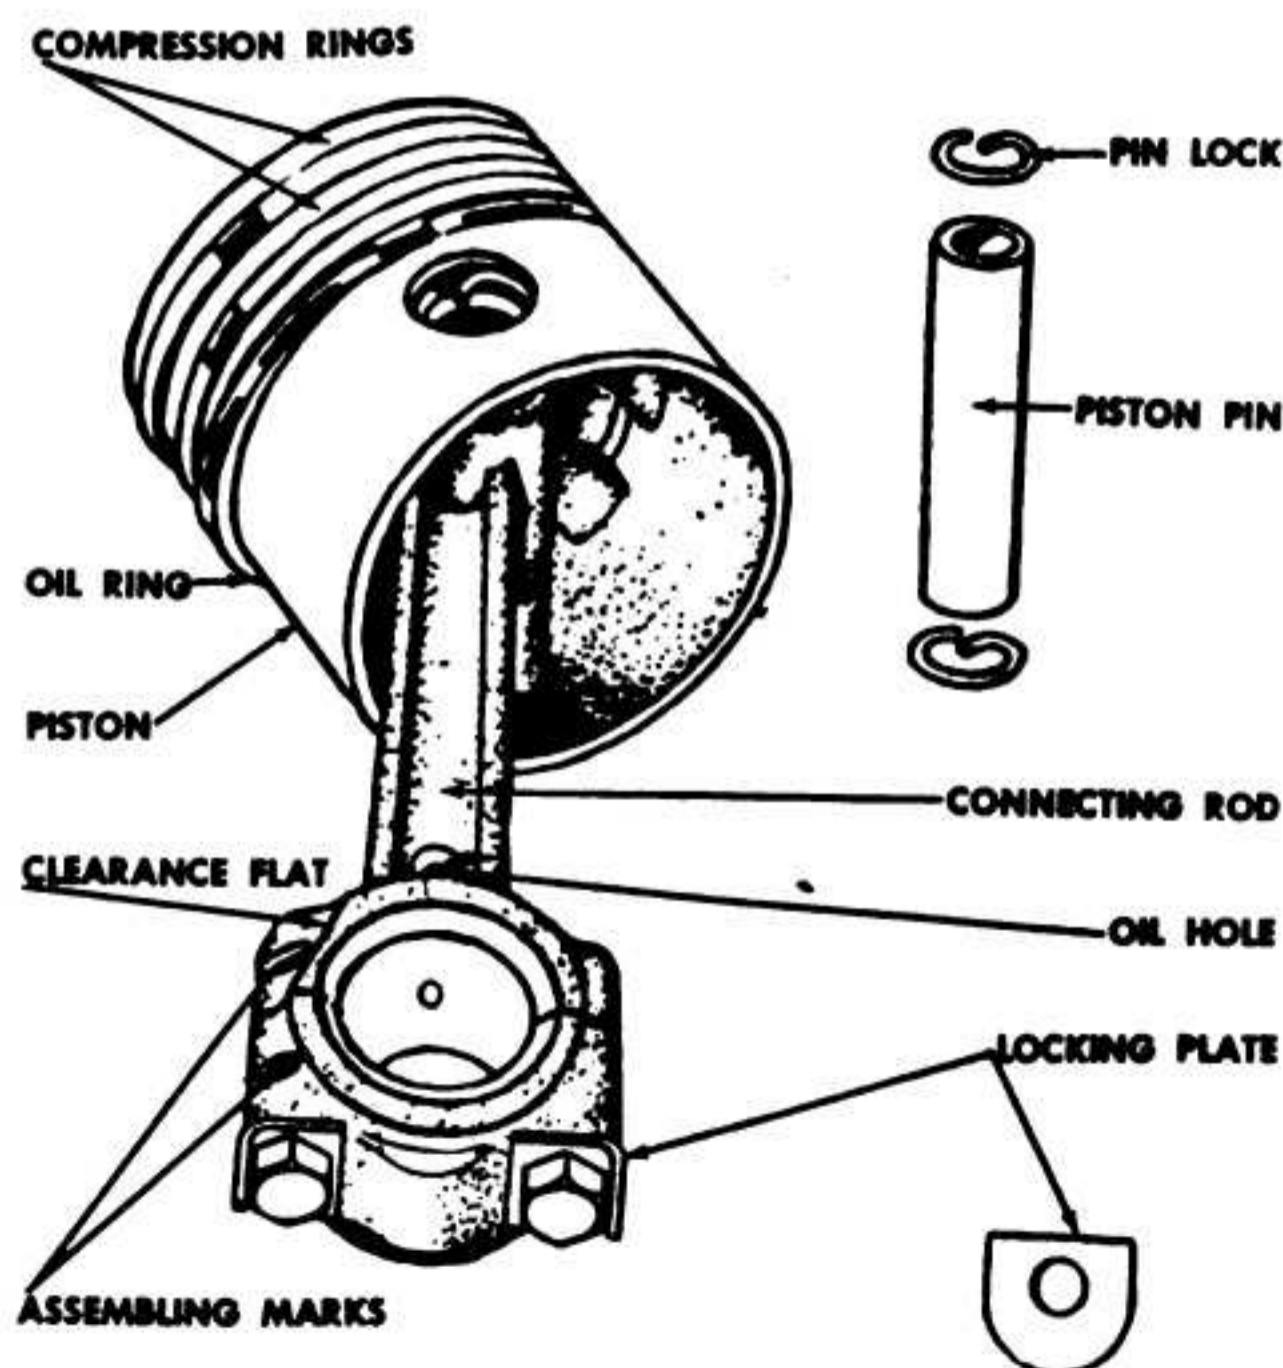

Figure 45—Piston Assembly
(1) Thoroughly clean grooves in piston so rings move freely.
(2) Position new rings on the piston and inspect side clearance between ring and ring land with a feeler gage. Clearance should not exceed .003-inch.
(3) Assemble the piston and the connecting rod with the piston pin; secure pin with pin locks. **NOTE:** Standard piston pin diameters are .67250-inch maximum, .67225-inch minimum. Maximum clearance, including wear, between the piston pin and the pin hole in the connecting rod is .0015-inch. If clearance exceeds this figure, replace piston assembly.
(4) Position the piston and connecting rod in the cylinder assembly. **NOTE:** Standard clearance between the piston skirt and cylinder wall is .007- to .009-inch, sufficient to compensate for considerable expansion of the aluminum piston when hot. Top and second lands of the piston are smaller than the skirt to allow for greater expansion at the piston head.
(5) Assemble the connecting rod to the crankshaft, positioning it so that the cam gear clearance flat and oil hole in lower bearing faces the magneto side. (See figure 45.) Assembly marks on the cap and rod must be on the same side. Secure the connecting rod cap with locking plates and capscrews; bend up the locks.